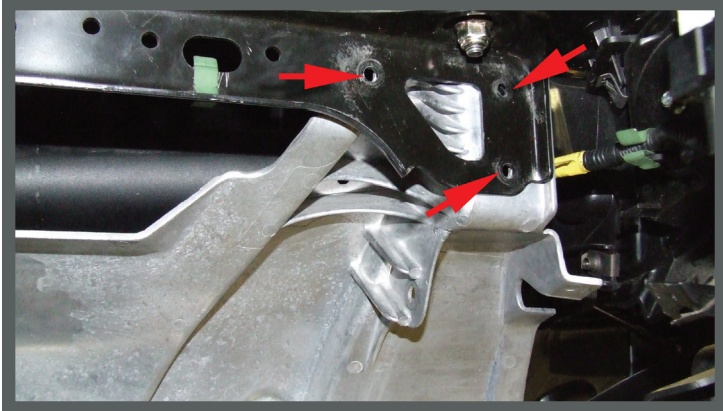
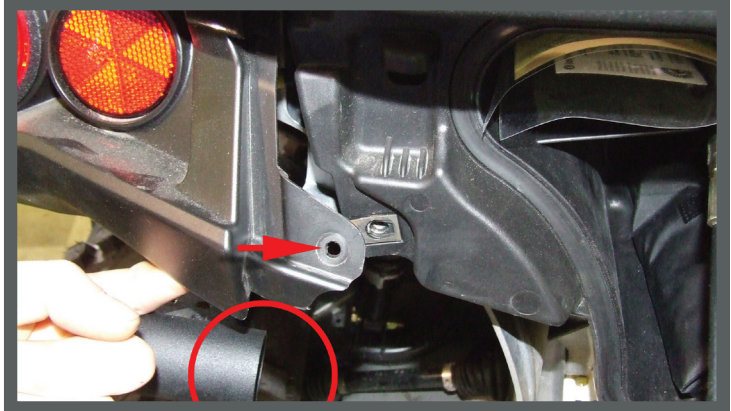

Figure 1
Figure 2
2. Remove the **(3) Bolts** (See Fig. 1) and **Plastic Bolt** located in the trunk. (See Fig. 2)
3. **XT Models Only** Remove the **Left Lower Bumper Mounting Bracket** (See Fig. 2)